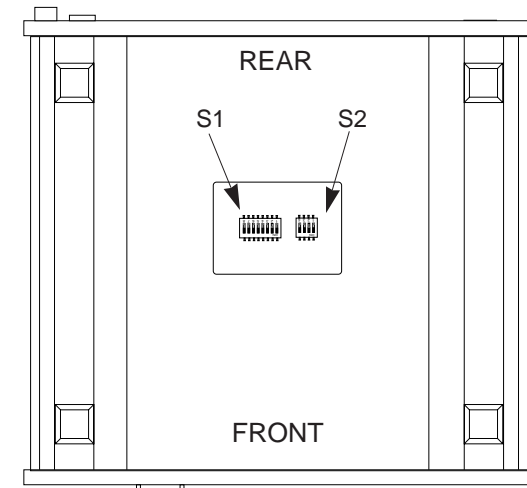
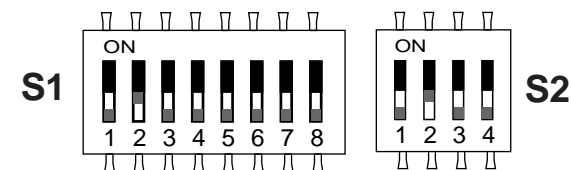

Figure 1. Underside of Model 1090 Wish External DIP Switch Locations
Figure 2. Close Up of Configuration Switches
The Model 1090's DIP switches are located on the underside of the unit (see Figure 1, below). Figure 2 (below), shows the orientation of the switch set. All possible settings for the Model 1090's DIP switches are presented in the summary table and descriptions on the following pages. If you have additional questions regarding configuration, contact Patton Technical Support at (301) 975-1007.